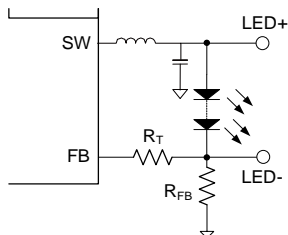

Figure 5: Feedback Network
The output current (I_{LED}) is set by the external resistor R_{FB} (see Figure 5). I_{LED} can be calculated using Equation (1):